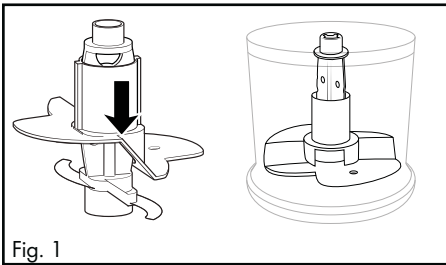

Fig. 1
- For 100 ml of cream, place it onto the blade holder 5 so that the whisk attachment 10 is in contact with both blades 7 and clicks into place (fig. 1):